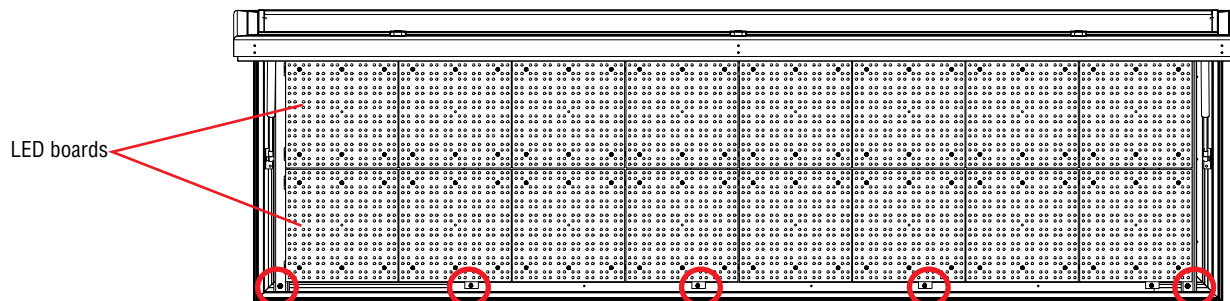

Figure 17: Internal vertical rail screws
17. Refasten screws to the internal vertical rails. See Figure 17, "Internal vertical rail screws," on page 48.